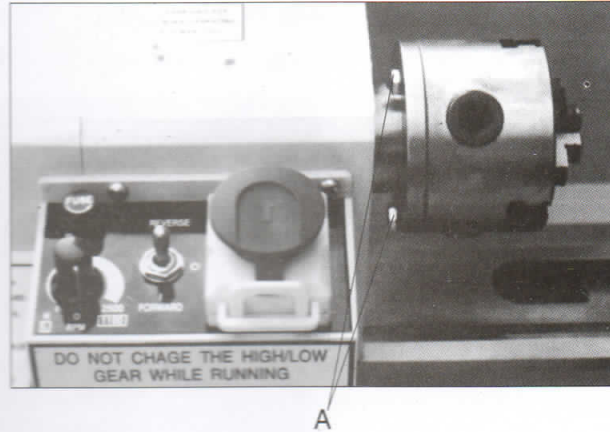

Fig. 6 Replacement Of Chuck
When replacing the chuck, place a cloth or a piece of wood on the bed way at the bottom of the chuck. This is to avoid damage to the bed way caused by carelessly dropping the chuck. Loosen the 3 set screws as shown in Fig. 6. (A) to replace the chuck.